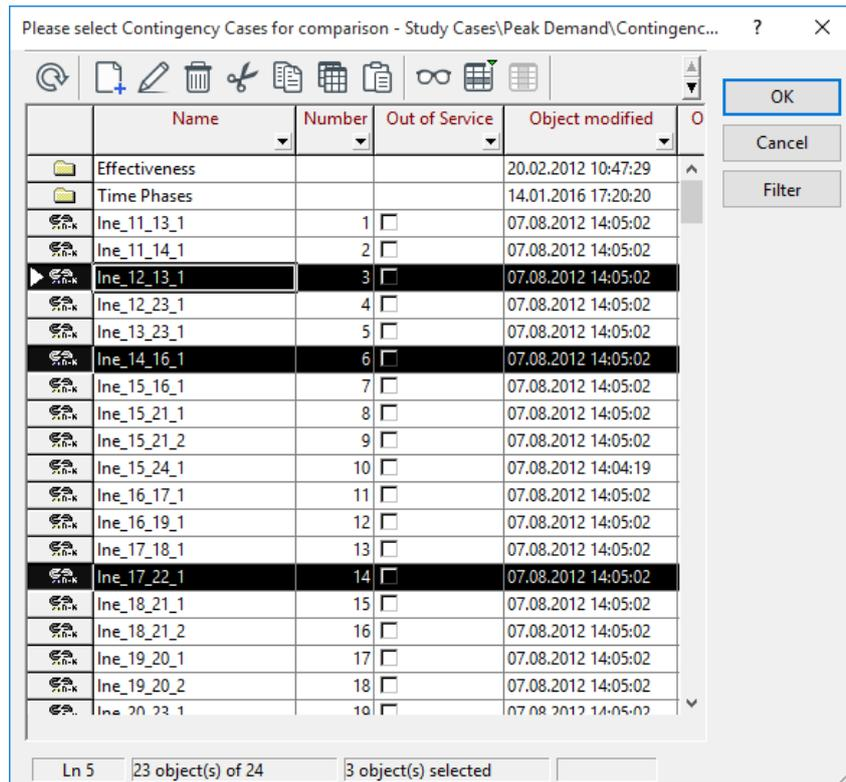

Figure 26.9.1: Selection of Contingency Cases for Comparison
2. Click on the *Contingency Comparison* button (). A window will pop up allowing the user to select the required contingency cases (Figure 26.9.1). The selection can correspond to one, several, or all contingency cases.